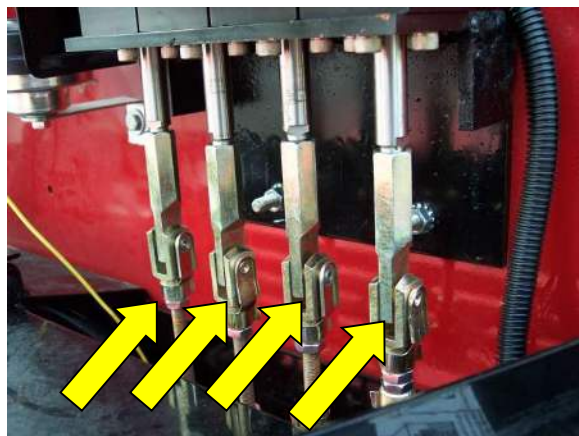

FIG. 3c
- b. Attach clevis hardware to each valve rod end (FIG. 3c)